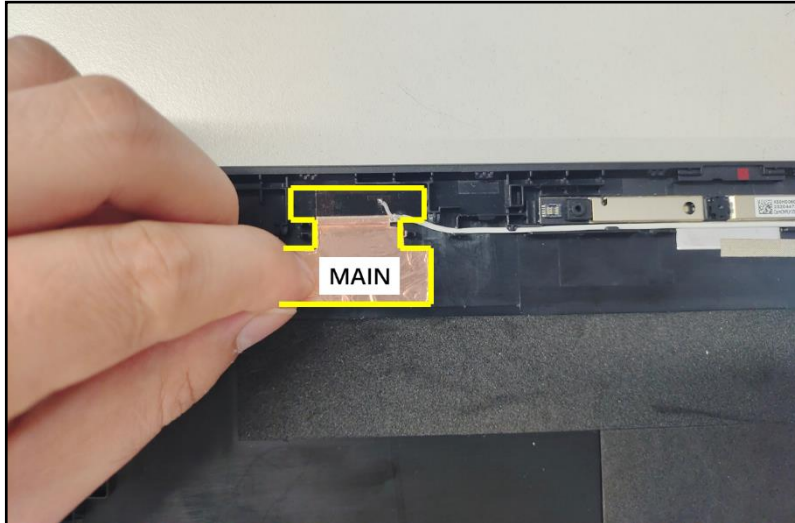

Figure 3-63. WLAN Antenna Removal
2. Gently peel off the MAIN antenna and its grounding foil (Figure 3-63). Then remove the MAIN antenna from the LCD cover.